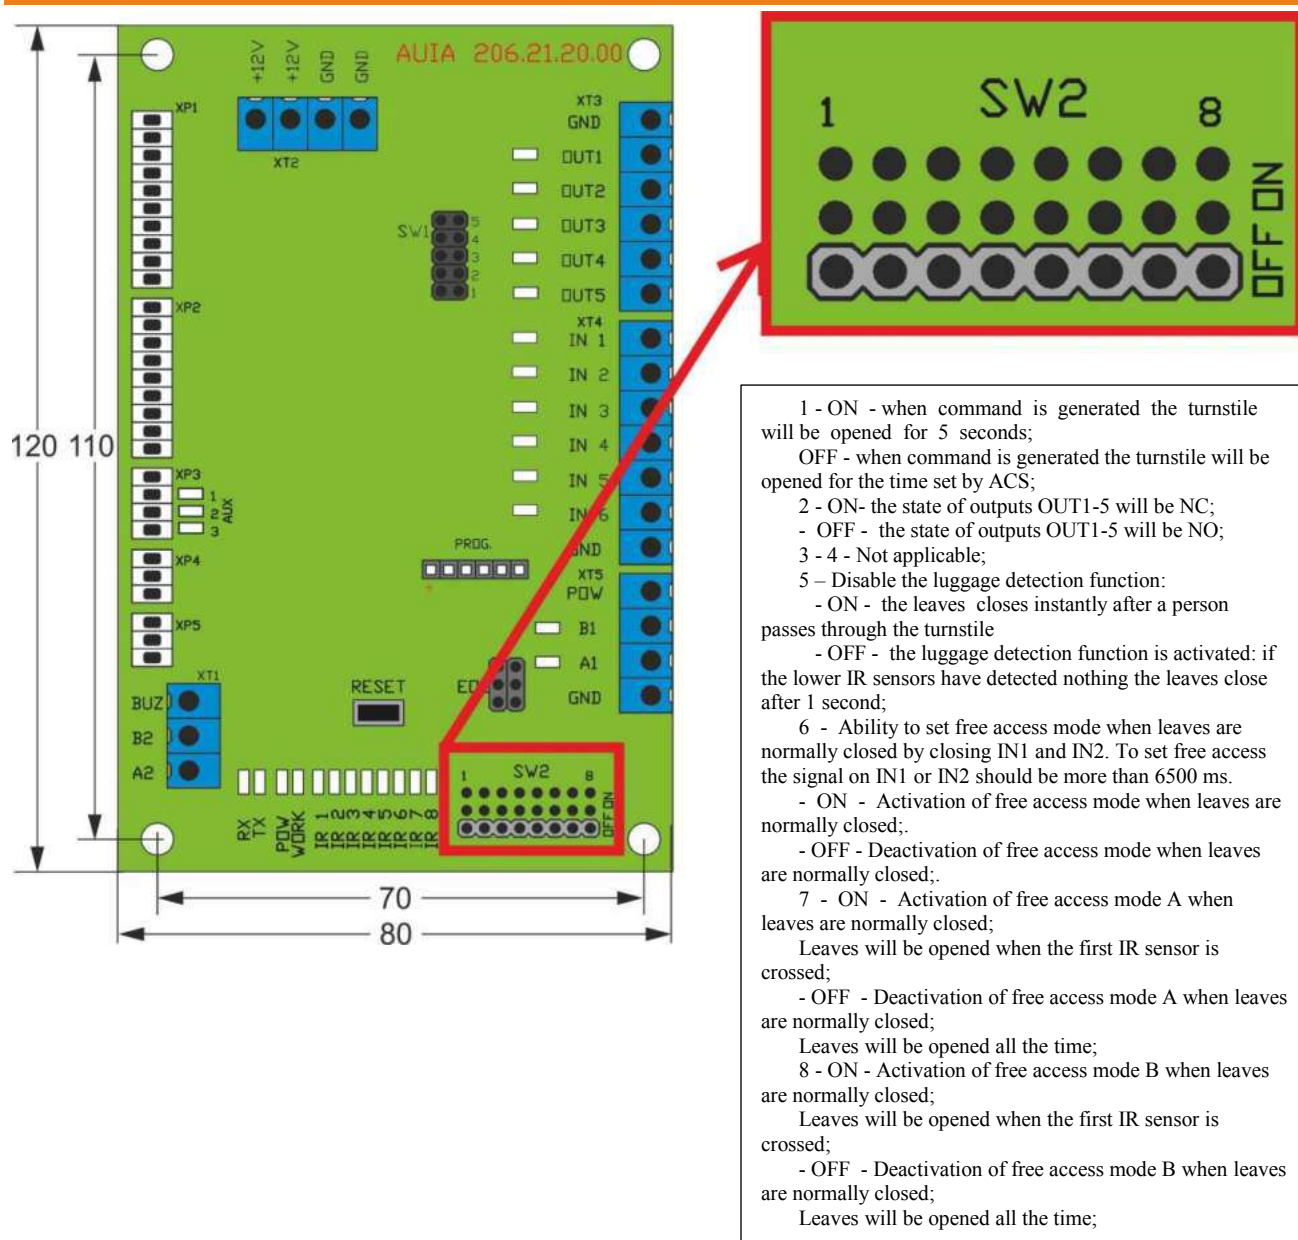

Fig. 9 – Appearance of controller AUIA.206.21.20.00
1.5.1.1 Appearance of controller AUIA.206.21.20.00 is shown in *Figure 9*.